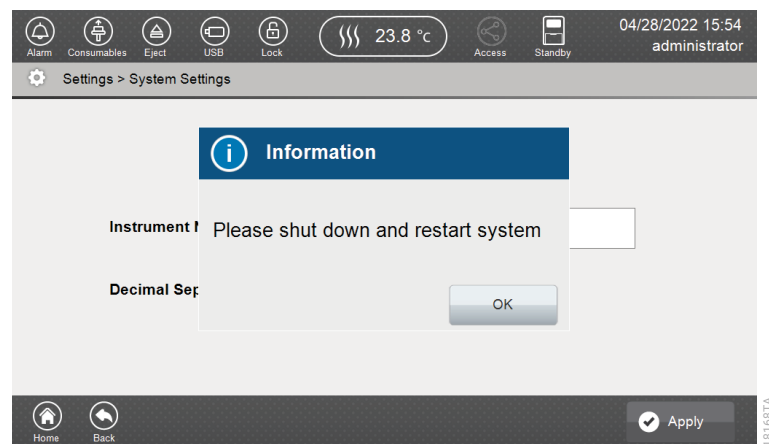

Figure 160. 'Information' screen.
5. A Confirmation message followed by an Information message will be displayed (Figure 160). Select **OK**. Restart the system to make the changes take effect.